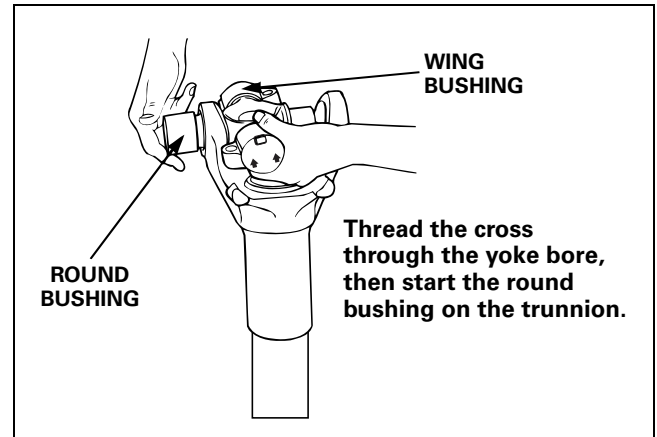

Figure 4.32
4. Position the first round bushing onto the trunnion by threading the cross trunnion through the yoke bore. Figure 4.32.